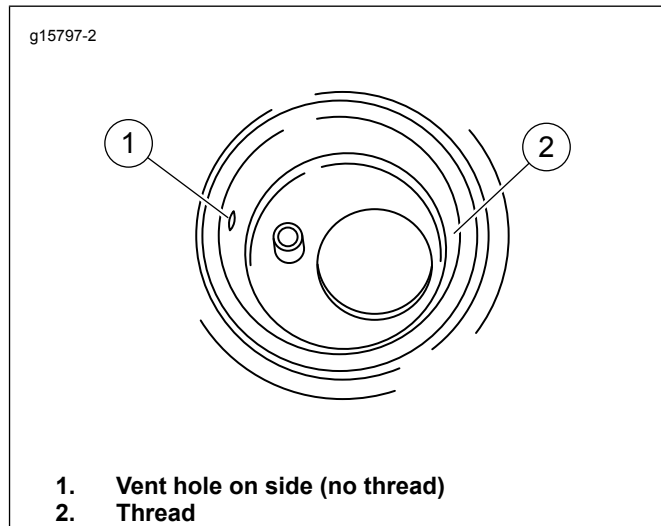

**Figure 1. Fuel Filler Tool**
1. See Figure 1. Use FUEL FILLER TOOL (Part No. HD-50653).